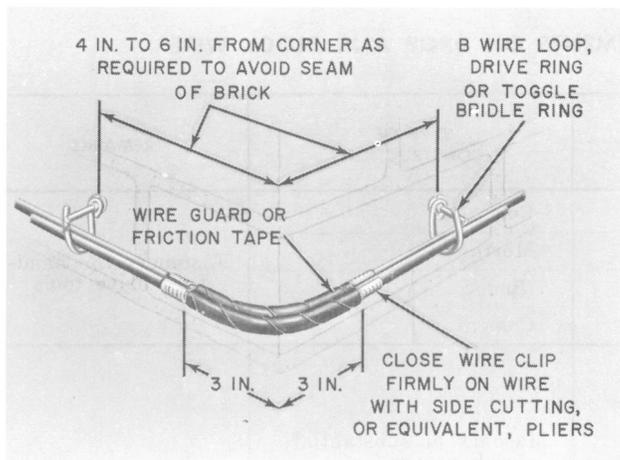

Fig. 14—Spacing Attachments at Outside Corner of Building
7. INTERMEDIATE ATTACHMENTS ON BUILDINGS (Tables E, F, G and Fig. 14 through 20)